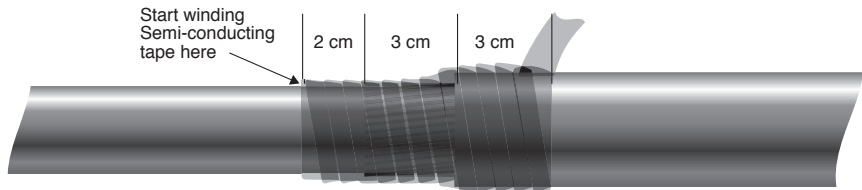

Figure 23.
- Using the semi-conductive tape provided, starting 2 cm in front of the end of the outer copper screen tape [or 5 cm in front of the black outer sheath], stretch and wrap the tape back over the tape and 3 cm over the black with 50 % overlap, securing the outer copper screen tape in place. This should use approximately 50 cm of the tape [Figure 23].